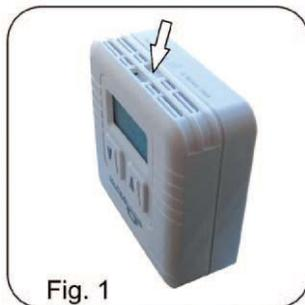

Fig. 1
- › Release the front cover by pressing the tab on the top of the front cover with a screwdriver (see figure 1).